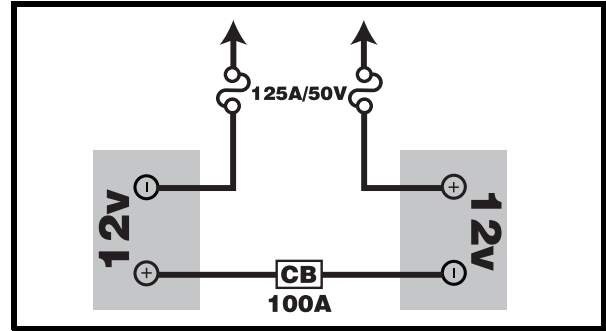

Figure 15A. Battery Wiring Diagram
7. Place a new battery in each battery well. Face the battery terminals of each battery away from the seat post. **See figure 15A.**